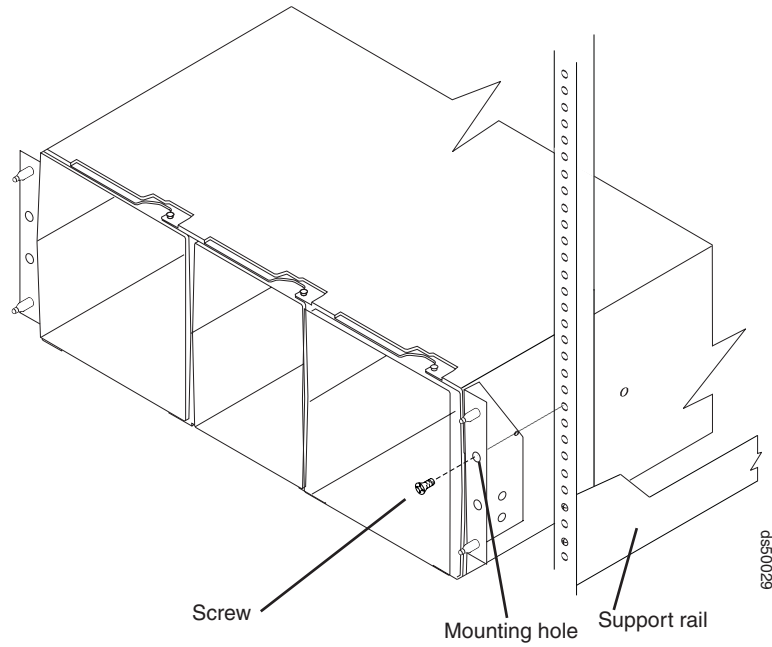

Figure 18. Securing the DS5100 or DS5300 to the rack cabinet
1. Remove the empty DS5100 or DS5300 from the shipping box and set the storage subsystem in the cabinet. Figure 18 on page 47 shows the correct orientation of the empty storage subsystem to the cabinet and support rail. The following steps will help you safely install the DS5100 or DS5300 on the support rails:
2. Secure the storage subsystem to the cabinet. Figure 18 shows how to secure the DS5100 or DS5300 to the vertical members of the cabinet.